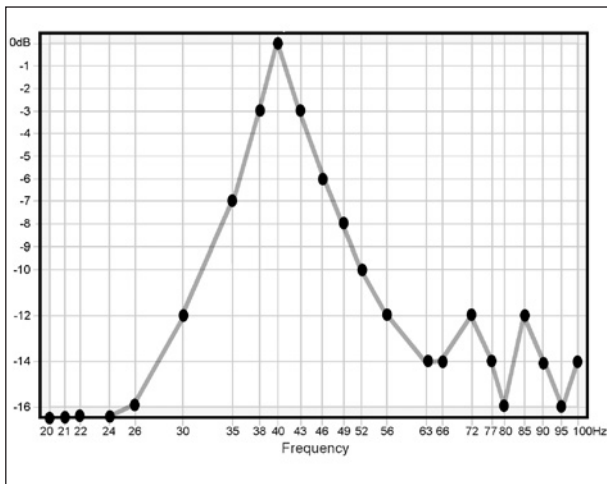

Figure 18. Narrow Response
1. Select a new test position: Cue the test track corresponding to the center frequency of the dip. In the first example in Figure 18, you would play Track 13 (56Hz). Press **Play** ▶. You will see a reading very close to what you had before. Now, slowly move the RSLM around the area, if possible remaining within about a foot of the original test point. As you move the RSLM, watch the bar graph. You will observe large level fluctuations. Find a position that restores the level to approximately that of the adjacent test points. You may find it helpful to move the RSLM vertically. Dips can be oriented in any axis. The position that restores the level to about that of the adjacent test points is your new test position.